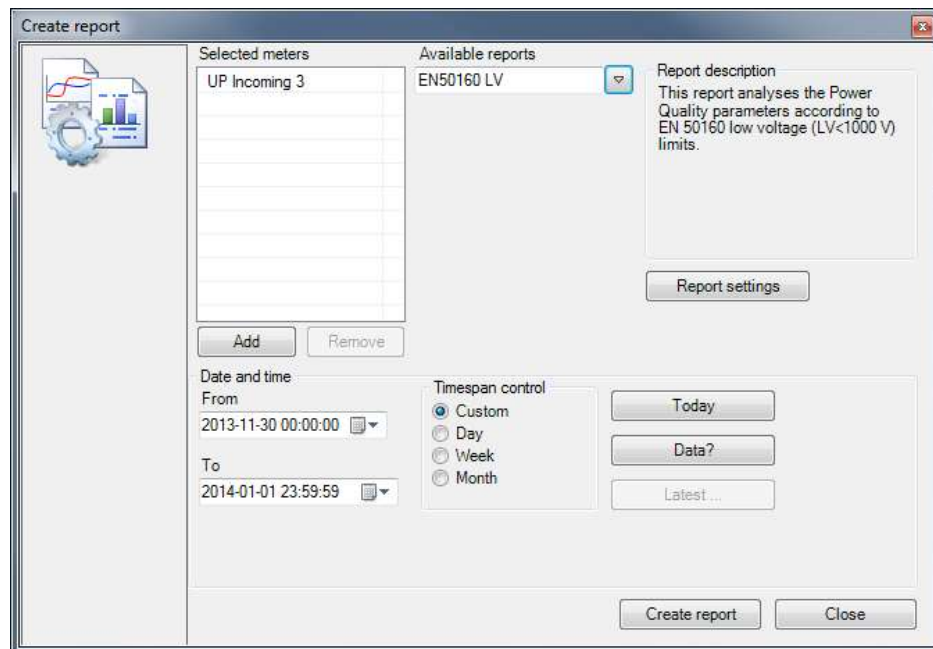

Figure 5
- Right-click on the selected file(s) and select **Report** and the report dialogue window will open (see Figure 5).